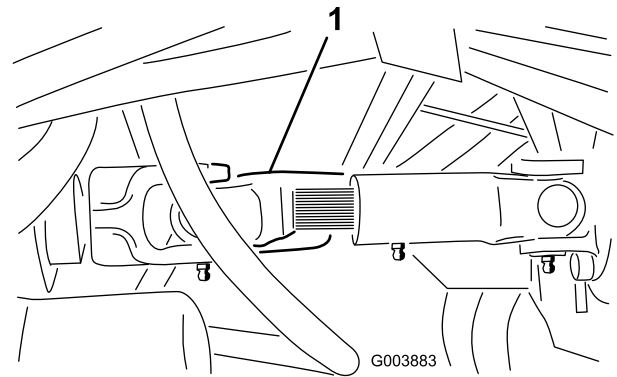

Figure 35
2. Loosen the bolts clamping the drive shaft to the transmission (Figure 35).
6. When towing is completed, install the drive-shaft as shown in Figure 35. The splines